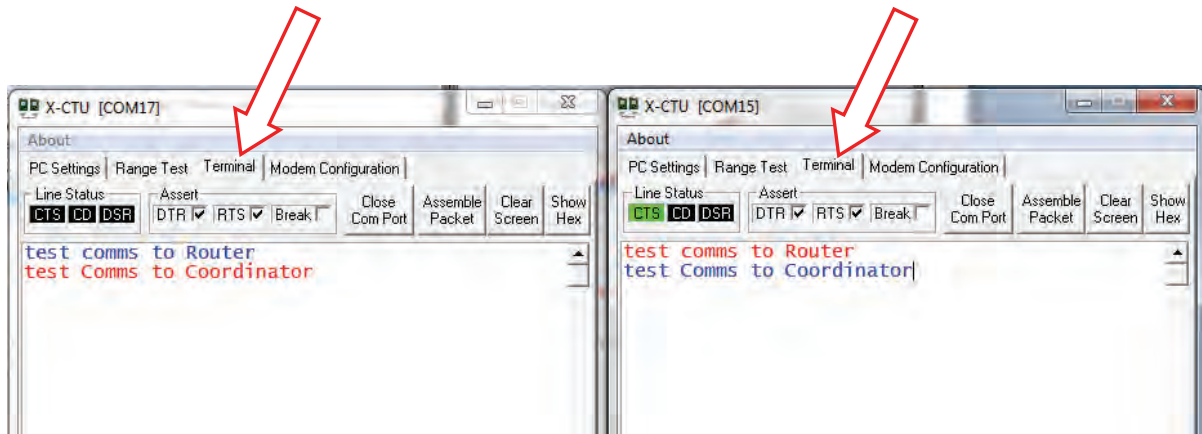

Figure 8-10: Entering and Viewing Text in Terminal Tabs
- ✓ Once you have communication with both XBee ZB modules, click on the Terminal tab in both X-CTU windows as shown in Figure 8-10.